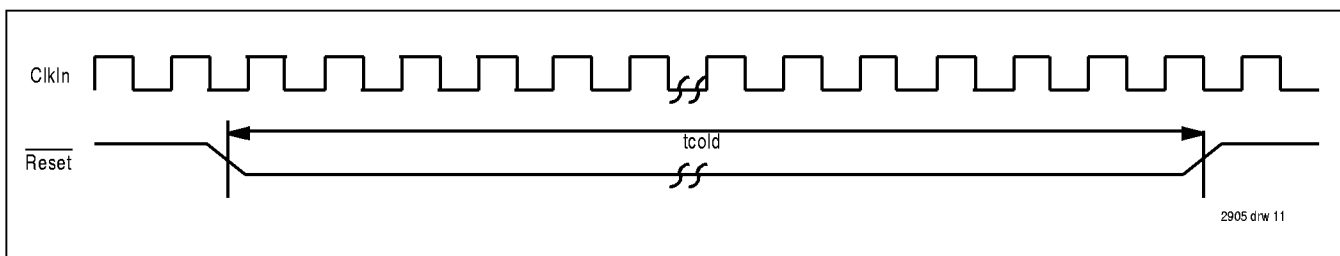

Figure 5: Warm Reset Sequence (Internal Pull-Ups Used)
2. For timing diagrams of the ClkIn, Reset, and SysClk signals, see Figure 2 through Figure 5 on the following page.